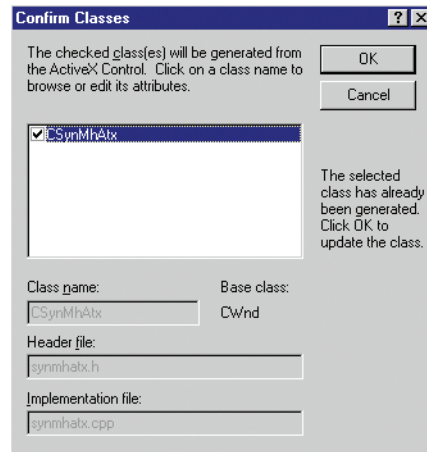

Figure 12-3 Confirm Classes dialog box
- 7 When the *Confirm Classes* dialog box appears (Figure 12-3), click *OK*.